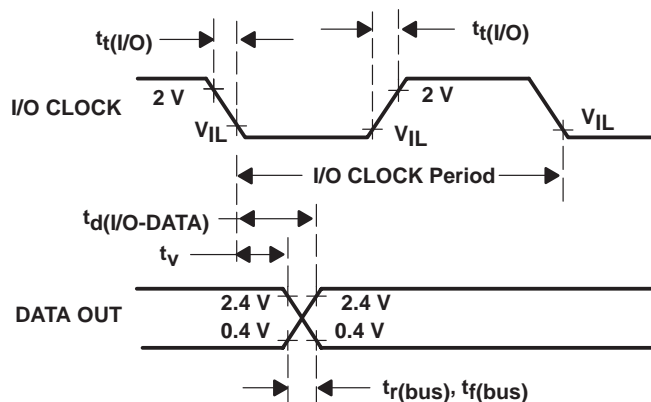

Figure 6. DATA OUT and I/O CLOCK Voltage Waveforms
| t_v Valid time, DATA OUT remains valid after I/O CLOCK↓ | See Figure 6 | 10 | | | ns |
| $t_d(I/O\text{-}DATA)$ Delay time, I/O CLOCK↓ to DATA OUT valid | See Figure 6 | | 240 | | ns |
| $t_r(bus)$ Rise time, data bus | See Figure 6 | | 300 | | ns |
| $t_f(bus)$ Fall time, data bus | See Figure 6 | | 300 | | ns |
- I/O CLOCK period = $1/(I/O\text{ CLOCK frequency})$ (see Figure 6).